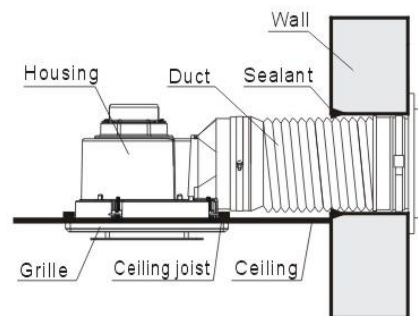

Fig. 2 – Installing duct if required
8. Note: if ducting is required to completely exhaust air from the room, then install a 150mm duct pipe to the exhaust fan and lay the ducting across the ceiling and onto a suitable 150mm exhaust vent. (Fig 2)